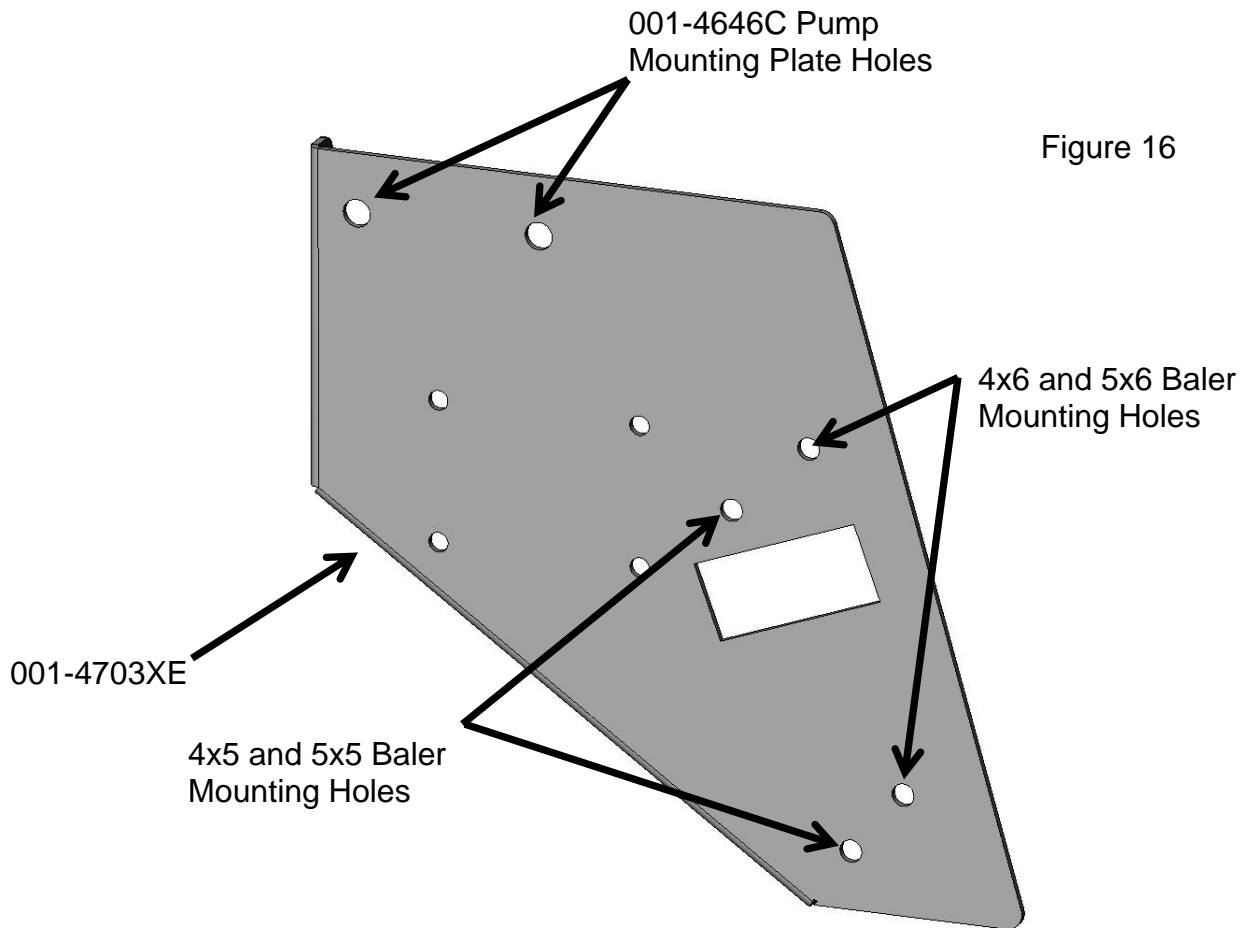

Figure 15
3. Attach the pump plate holder (001-4646D) to pump plate mounting bracket (001-4646C) using four 3/8" x 3/4" flange head bolts. Figure 15.